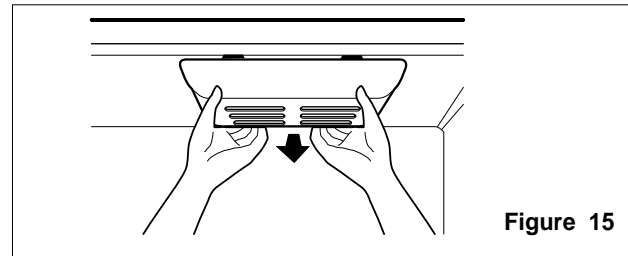

Figure 15
2. Release the hooks at back of light cover and pull the cover down to remove it. (Figure 15)